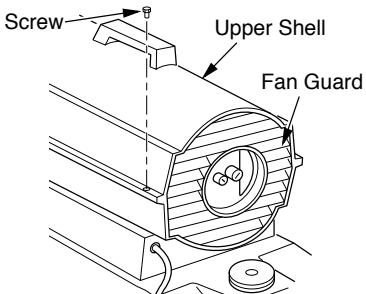

Figure 7 - Upper Shell Removal,
1. Remove screws along each side of heater using 5/16" nut-driver. These screws attach upper and lower shells together. See Figure 7 or 8.
1. Remove upper shell (see Figure 7 or 8).